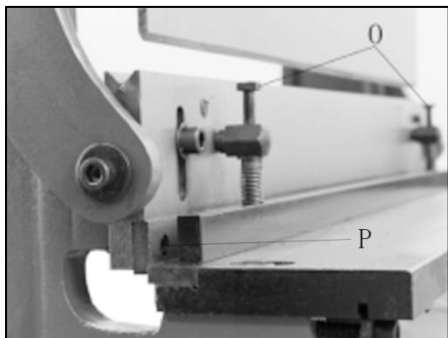

Figure 10
1. Remove hold-down by loosening screws (O, Figure 10), using 6mm hex key.
3. Remove seven screws (P, Figure 10) and carefully remove blade.
4. Rotate or replace blade and re-install screws (P).
5. Re install hold-down. When blade is in highest position, the gap between the hold-down and the table should be within 1/4. Adjust to this position by turning the two screws (O, Figure 10) as needed. When the blade starts its downward travel, the hold-down should immediately hold workpiece in place.